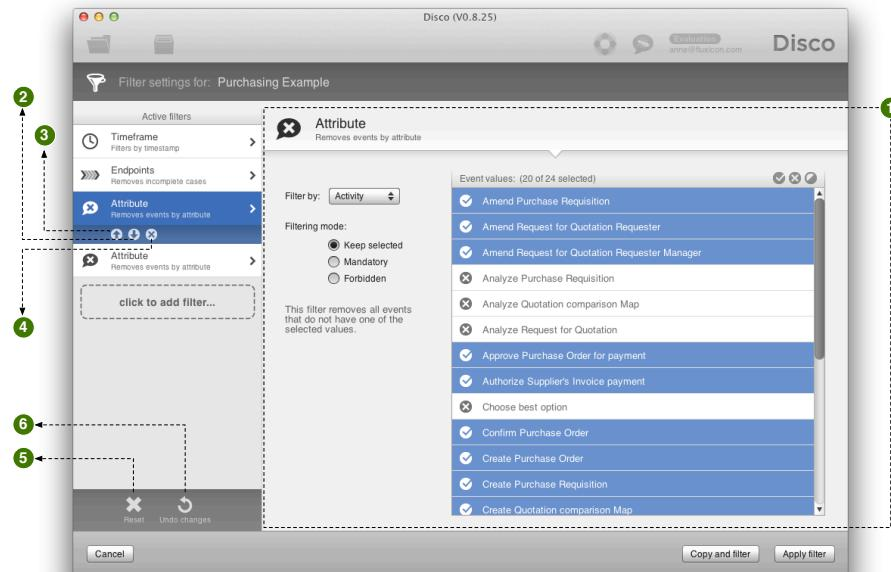

Fig. 5.5. Managing the filter stack in Disco.
After you have chosen a filter type, an instance of this filter will be placed in your filter list. You can either stop there and work with the single filter, or you can add more filters. Figure 5.5 shows an example, where four filters have been added to the data set: A Timeframe filter, an Endpoint filter, and two Attribute filters. As you can see, multiple filters of the same type can be added to the filter stack.
Figure 5.5 also shows you an inventory of the controls (numbered 1–6) that you can use to manage the filter stack in Disco. The following controls are available:
- ❶ *Settings area of the currently selected filter.* The configuration of the currently selected filter is shown in this area. For example, in Figure 5.5 you can see the current configuration of the first Attribute filter. The settings for the different filter types are explained in detail in Sections 5.2.1–5.2.6.
- ❷ *Moves up currently selected filter in the list.* If you want to move the currently selected filter up in your list, you can press the little ↑ button. Learn more about the order of your filters in the filter stack in Section 5.1.3.